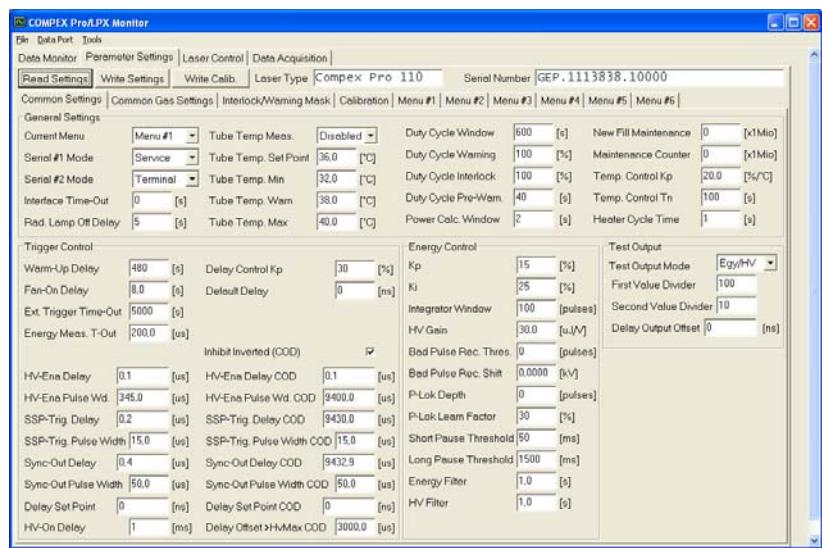

Figure 124: Parameter settings display
23. Click the “Read Settings” button to display the currently active parameter settings (see Figure 124).